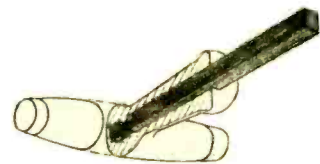

Fig. 3. Reinforcing steel shank cast in place; a typical insert.
(1) To provide greater strength at localized points in the casting. Fig. 3 illustrates this application of inserts.